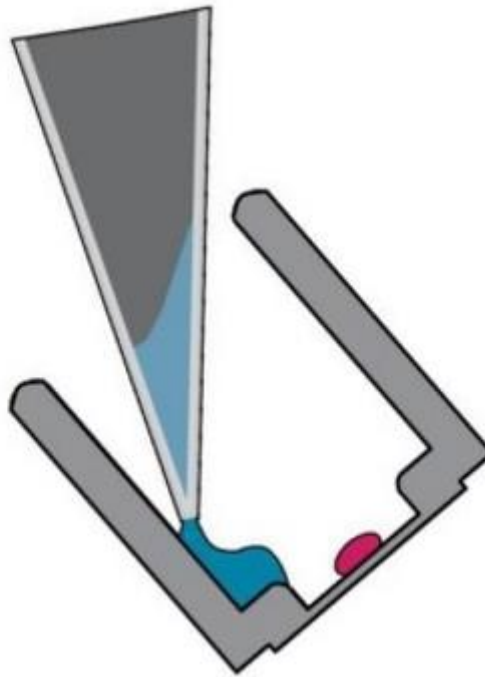

Figure 3: Media change for cardiomyocyte culture on the Axion 48-well MEA plate
- Culture cardiomyocytes on the MEA plate replacing 50% of the spent medium with **Maintenance Medium** every 2 days (see **Figure 3**).